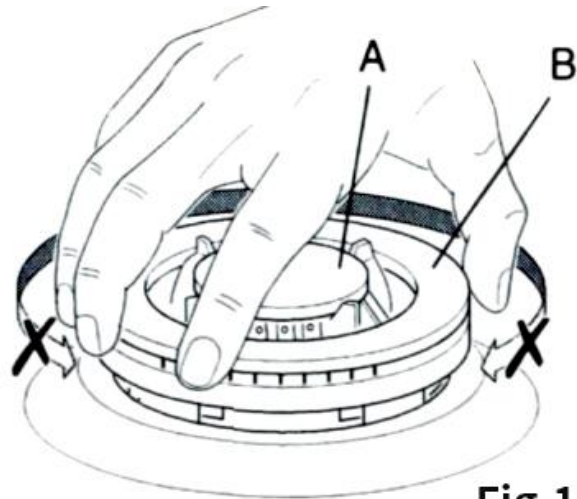

Fig.12
- The burner correctly positioned must not be able to rotate (Refer Fig.12), then position the cap "A" and the ring "B" (Refer Fig.12).